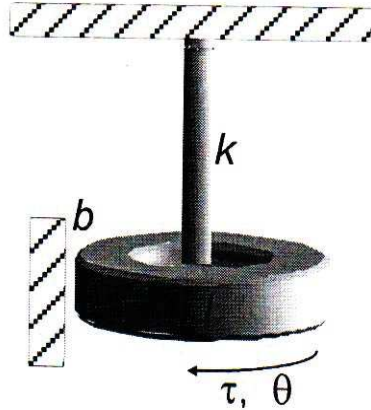

Figure Q7 (B)
- b)** Derive the transfer function between output θ and input τ for the single DOF rotational system shown in Figure Q7 (b). **[5]**